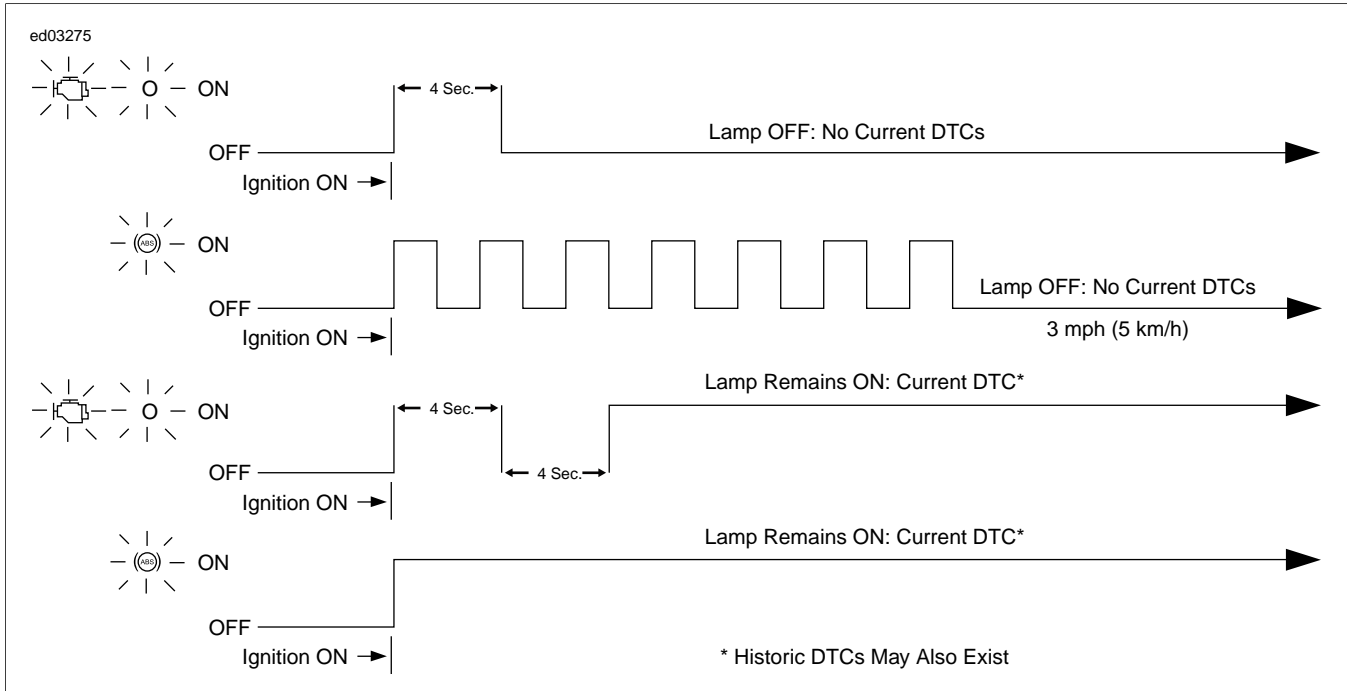

Figure 1-1. Check Engine Lamp and Security Lamp Operation
1. See Figure 1-1. After the check engine lamp turns off following the first four second illumination period, one of two events may occur.